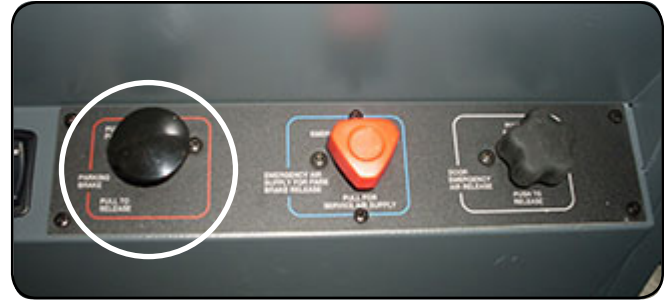

Figure 1 - Parking Brake
1. Set parking brake (See Figure 1).